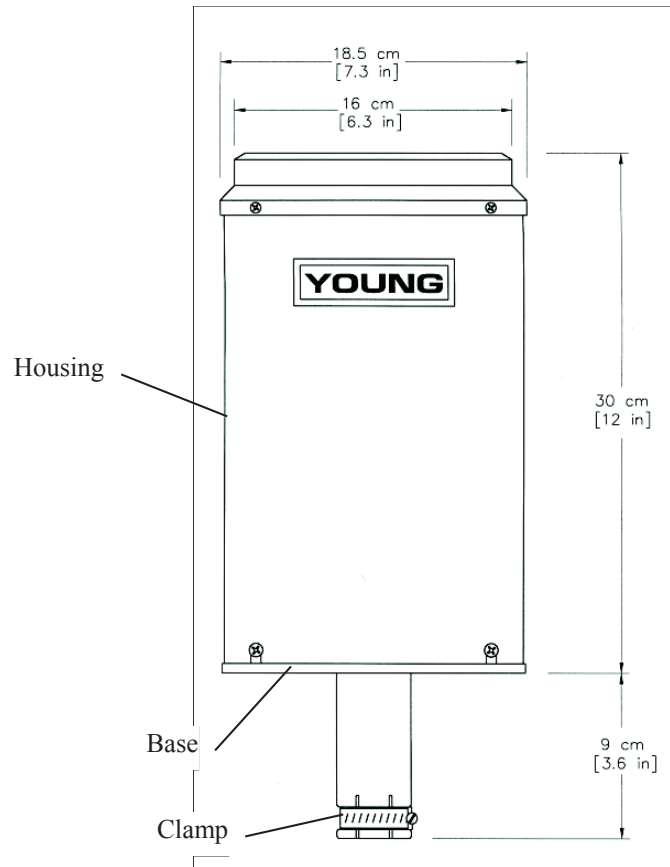

FIGURE 7-1. 52202 Precipitation Gage
The 52202 precipitation gage uses a clamp to fasten onto the 3659 12-inch-long, aluminum pipe or to a user-supplied 1-inch IPS pipe (see FIGURE 7-1). The 3659 pipe is shipped with the 52202 gage.
1. Loosen the three screws that retain housing to base assembly (see FIGURE 7-1). Carefully lift housing free of base.